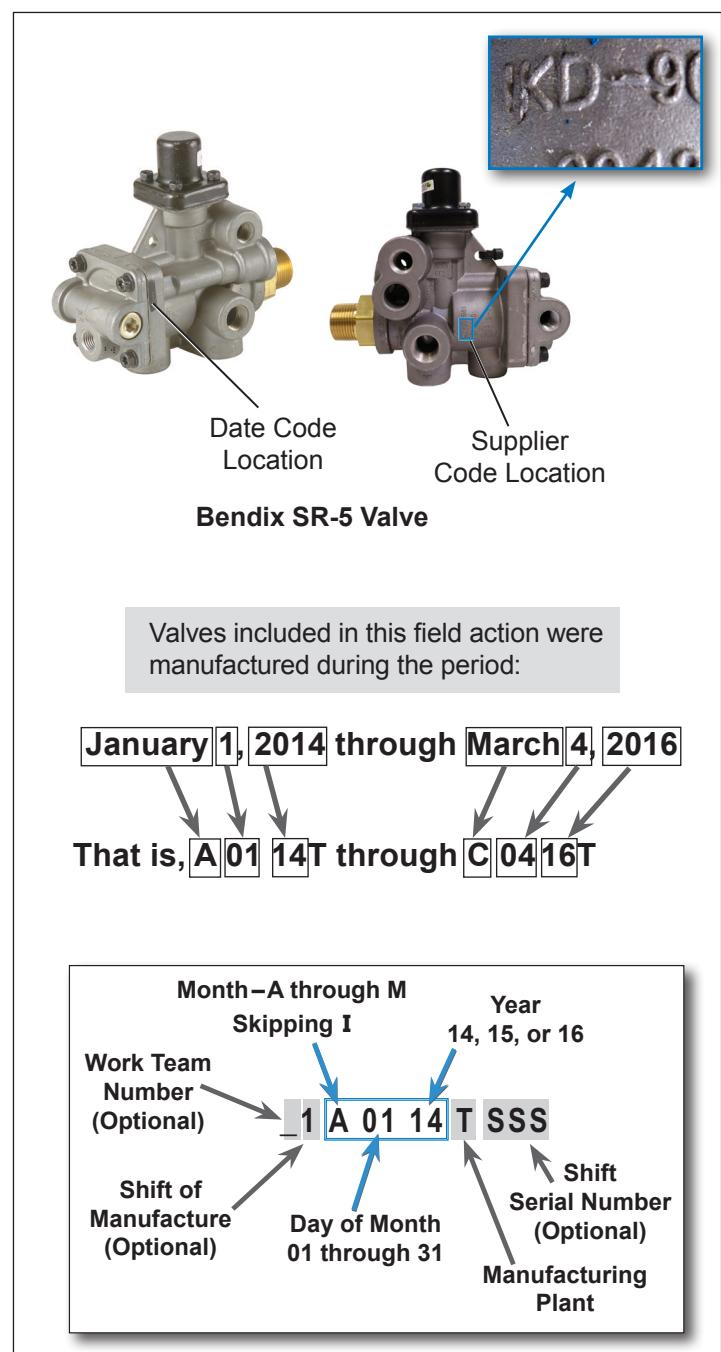

Figure 9 – Recall Identification
1. The supplier code – “IKD” – located as shown in Figure 9; and